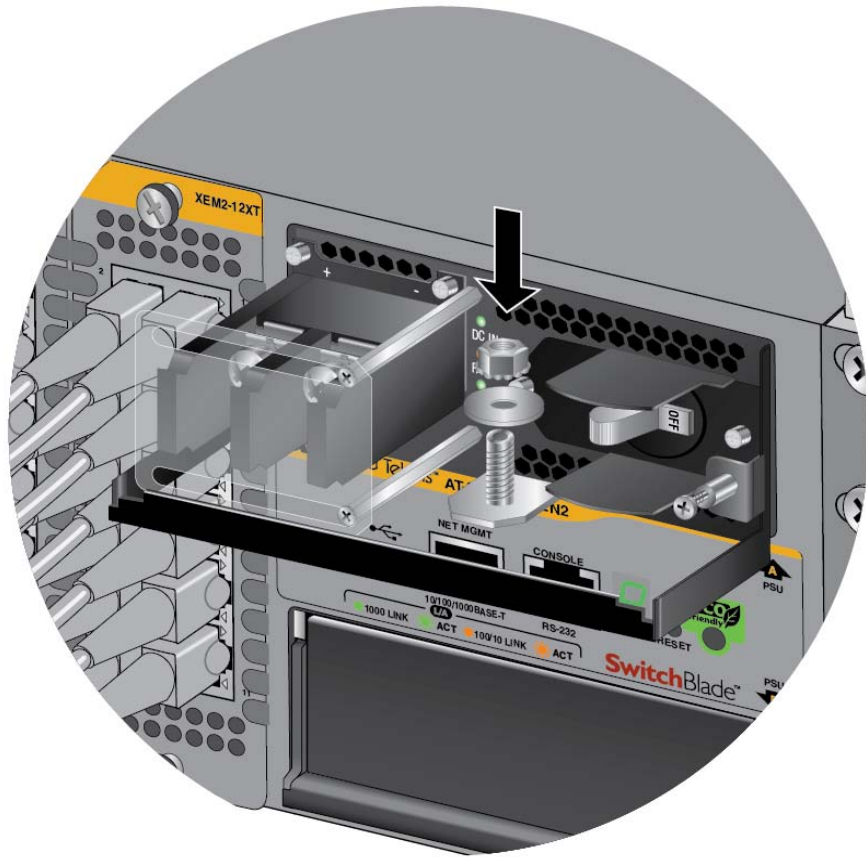

Figure 114. Reinstalling the Nut and Washer on the Grounding Post
10. Reinstall the nut and washer on the grounding post. Refer to Figure 114 on page 156.